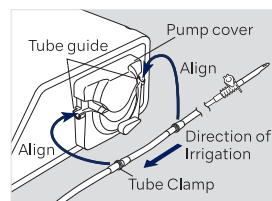

Fig.2
- 2 After checking the irrigation direction, insert the tube into the Irrigation Pump. Align the Tube Clamps of the Irrigation Tube with the tube guides and set the Tube. (Fig.2)